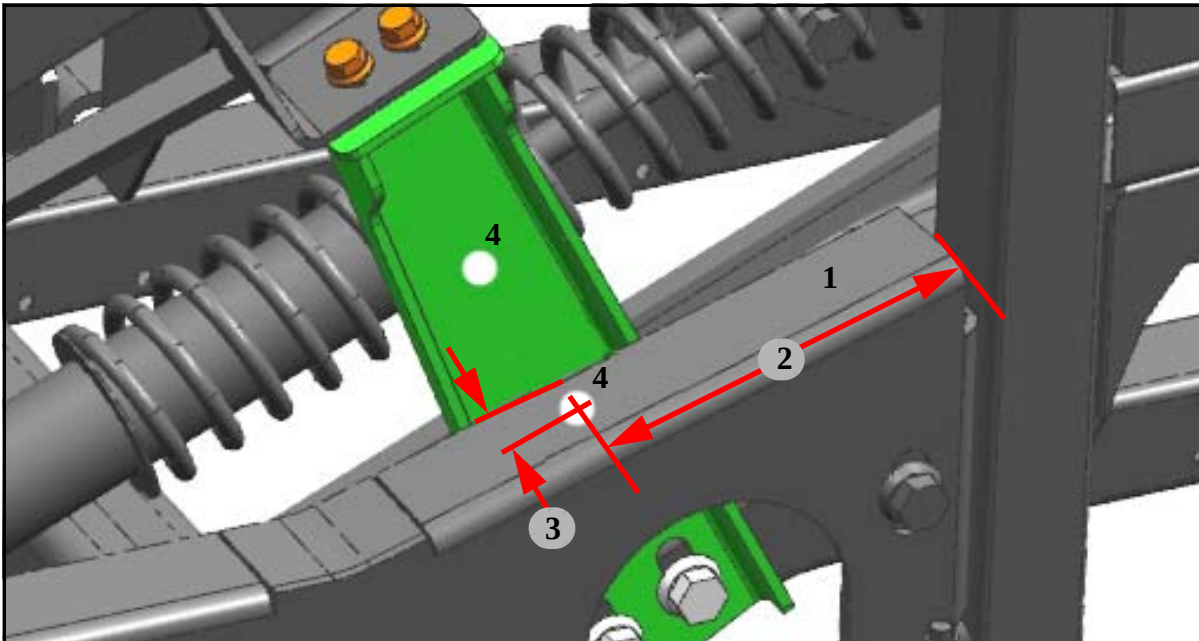

Figure 32. Idler pulley bracket angle drilled mounting hole dimensions.
70. Using a 17/32 inch drill bit and a drill, drill a mounting hole in the tie bar plate per the dimensions shown in Figure 32.
Item	Figure 32 Description